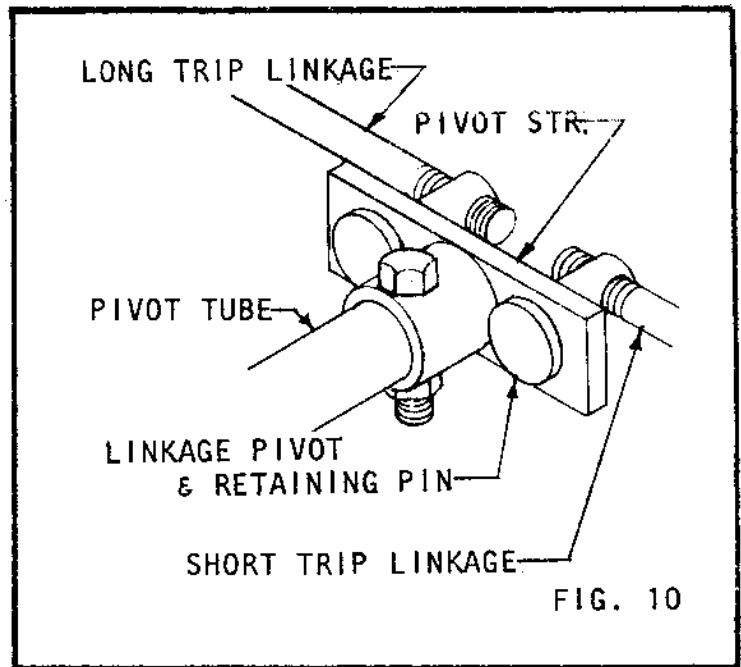

FIG. 10
46. Install headed pivot pins into handle assembly as shown in Figs. 10 and 11. Install short linkage through trip release bracket into headed pin. With cross tubes resting on latches, adjust short linkage until it will just go on the latch release rod. Repeat process for the rear short linkage. Raise lift until the latches are free and lock handle into lowering position. Pull latch fully inward if not already in that position. There should be no slot clearance between latch and linkage.